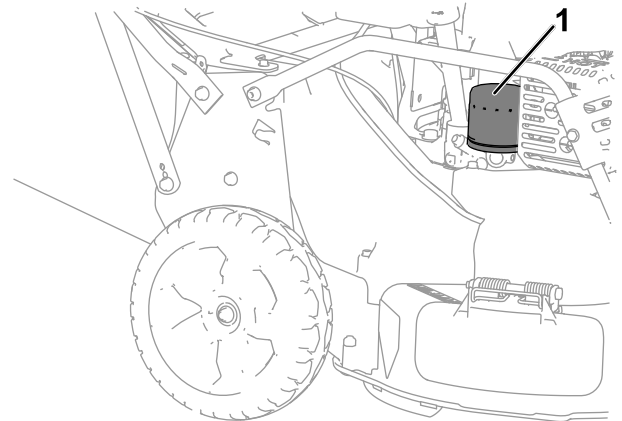

Figure 24
- Remove the oil filter (Figure 24).